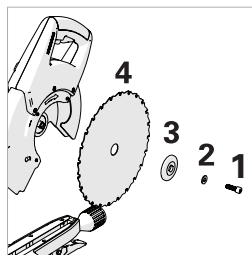

Fig. 41 View of
- Using the supplied Hex Key, release the arbor screw and remove the washer and blade flange and the blade from the arbor. **(Fig. 41)**